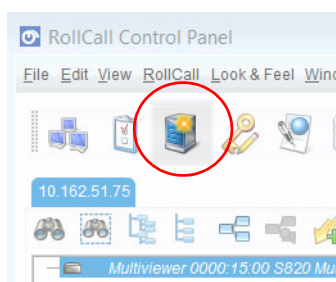

Fig. 10-5: Import New Upgrade Icon
- 3 Click the **Import New Upgrade** icon, see Figure 10-5.